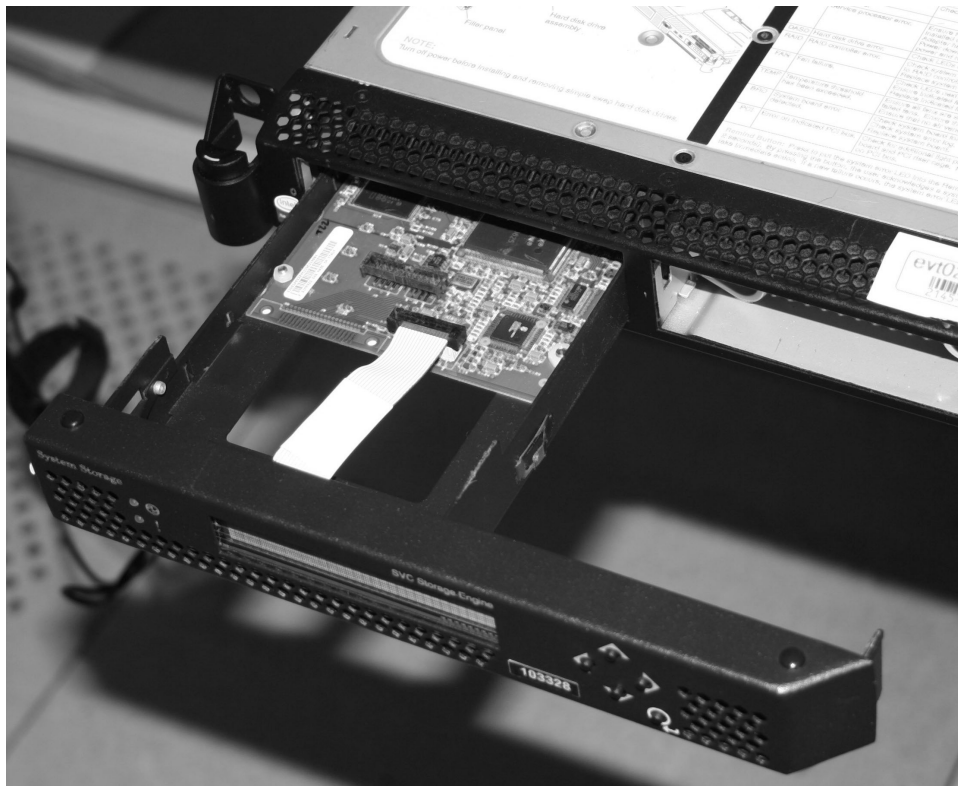

Figure 79. Removing the service controller from the SAN Volume Controller 2145-8G4
3. You can stop pressing the release button and pull the service controller fully out of the frame, as shown in Figure 79